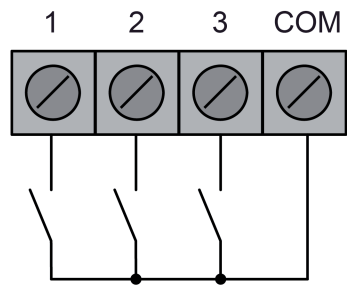

Figure 3: Connection of potential-free contacts to the extension inputs
- (3) Slide-in shaft for rotary knob with push-button (incremental encoder)
- (4) Terminals for extension inputs
- (5) KNX bus connection
- (6) Device with supporting plate
- (7) Design frame (accessories)
- (8) Design central plate (accessories)
- (9) Design control button (accessories)
- Connect KNX bus line with terminal to bus connection (5).
- Optionally, connect potential-free contacts to the extension inputs (4) (Figure 3).